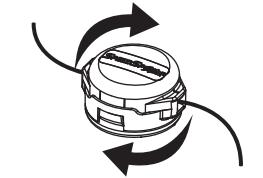

Fig. 19
- Hold the cutting head knob and turn the cutting head clockwise to wind the line around the spool until 5 in. (12.7 cm) is protruding from each side of the cutting head.(Fig. 19)